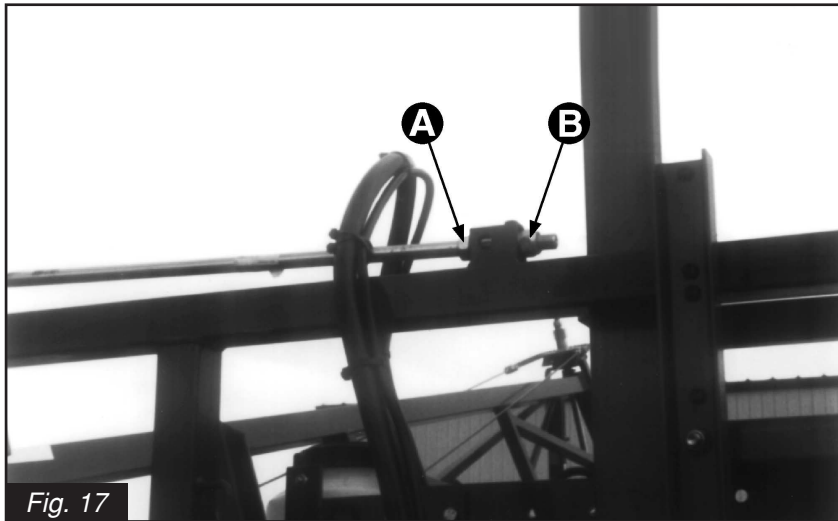

Fig. 17
1. Loosen jam nut **(A)**(Fig.17).
2. Adjust nut **(B)**(Fig.17) in or out until wing is level to ground.
3. Secure jam nut **(A)**(Fig.17).